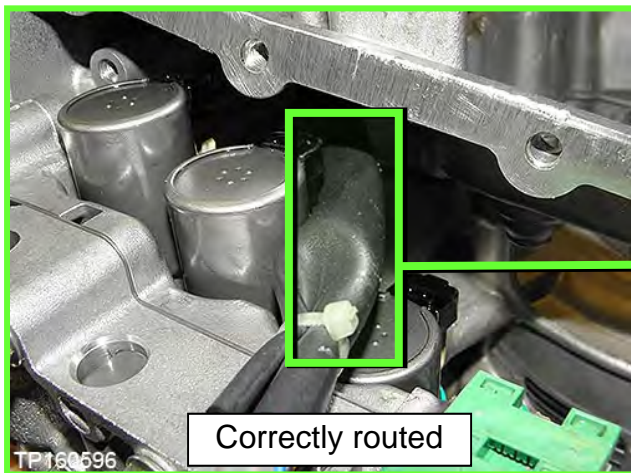
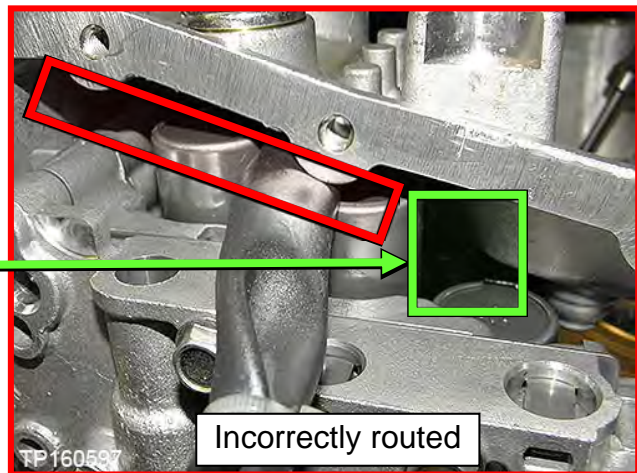

Figure 153
Figure 154
- Leave four (4) ✘ bolt holes empty at this step.
- Make sure the wiring harness is not pinched and routed correctly (Figure 153 and Figure 154).